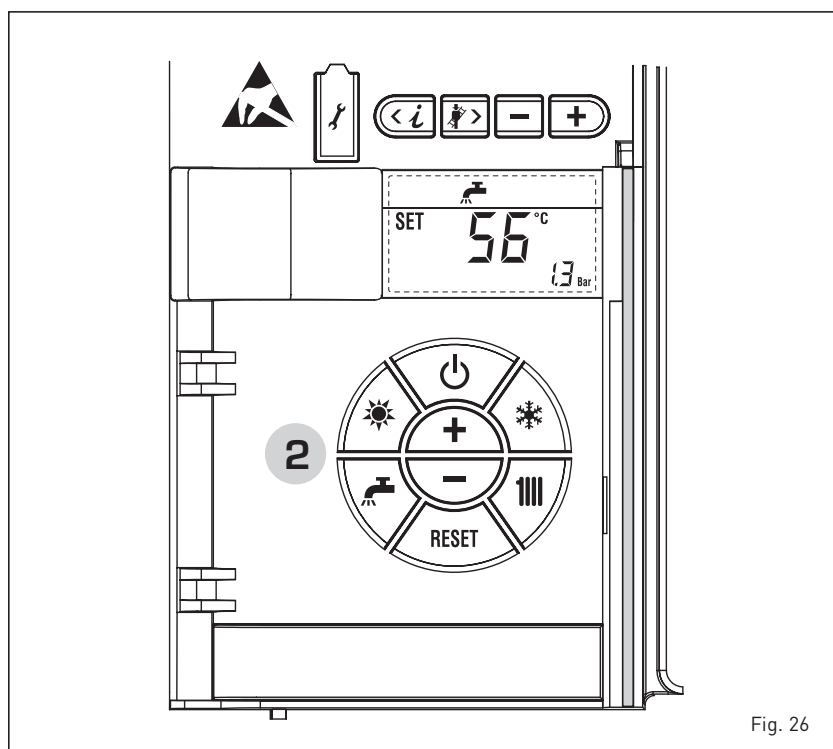

Fig. 26
1.3.3 Regulation D.H.W. temperature (fig. 26)